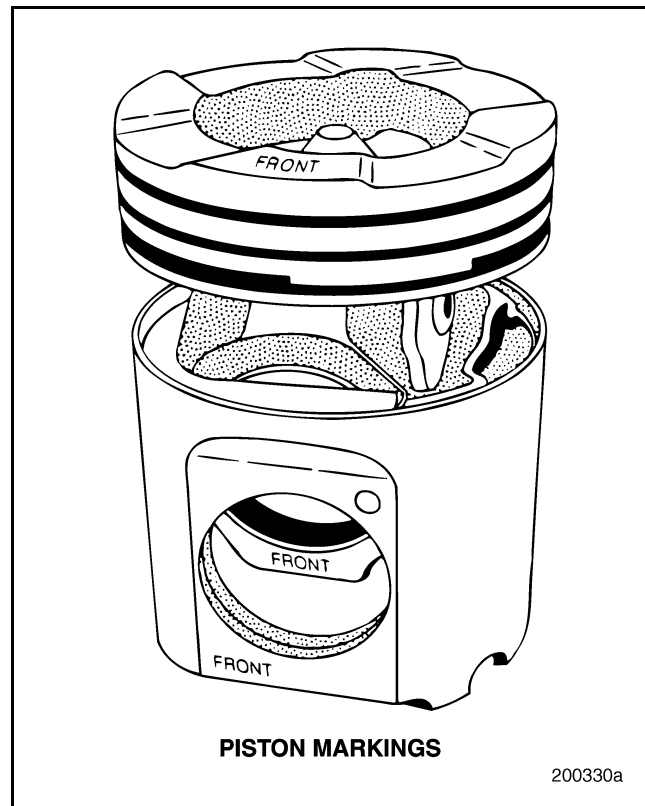

Figure 240 — Piston Markings
2. Position the connecting rod in the piston assembly. Make sure that the side of the rod marked FRONT is properly aligned with the FRONT markings on the piston crown and skirt (Figure 240).